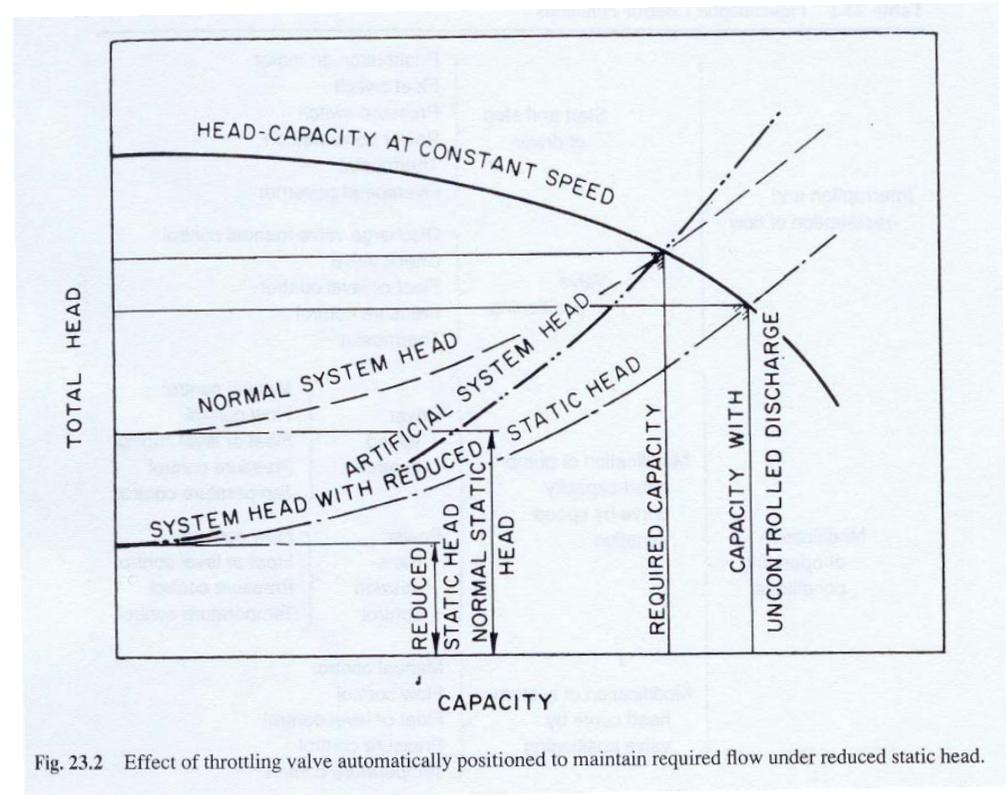

Fig. 23.2 Effect of throttling valve automatically positioned to maintain required flow under reduced static head.
- Controllo della portata Fig. 23.2